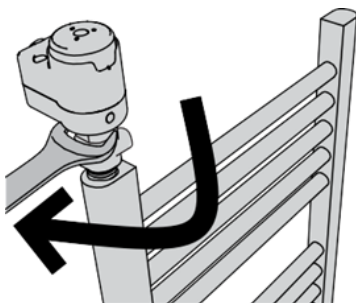

Fig. 10
7. Then using a 27 mm spanner turn the T-piece with screwed ATLANTIS III heating element until the last nipple thread turn and if necessary continue in order to have the regulating box facing forward (Fig. 10).